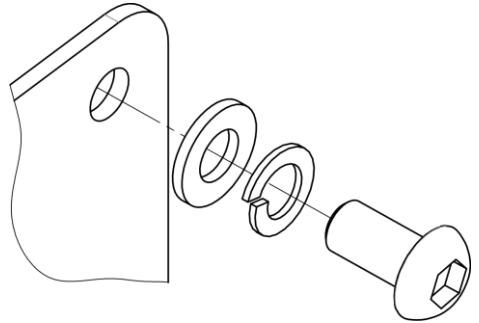

Figure 3. Washers on the screw
5.4.2 Connect the units with four plates. A plate requires four screws, each with a washer and a lock washer on it (fig. 3). Fix the screws tightly.
5.5.2 Attach the left and the right legs to the base unit. A leg requires four screws, each with a washer and a lock washer on it (fig. 3). Fix the screws tightly.
5.5.6 Connect the units with four plates. A plate requires four screws, each with a washer and a lock washer on it (fig. 3). Fix the screws tightly.
5.5.9 Connect the units with four plates. A plate requires four screws, each with a washer and a lock washer on it (fig. 3). Fix the screws tightly.